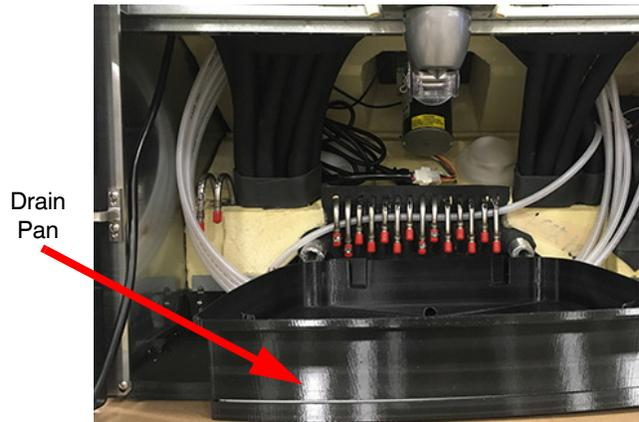

Figure 17
2. To replace the Enclave, the drain pan must be in position. Place the drain pan into the unit as shown in Figure 17.